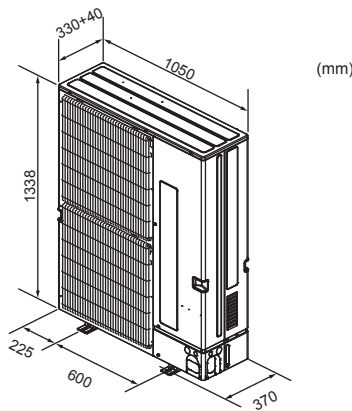

Fig. 5-1
■ Outline dimensions (Outdoor unit) (Fig. 5-1)